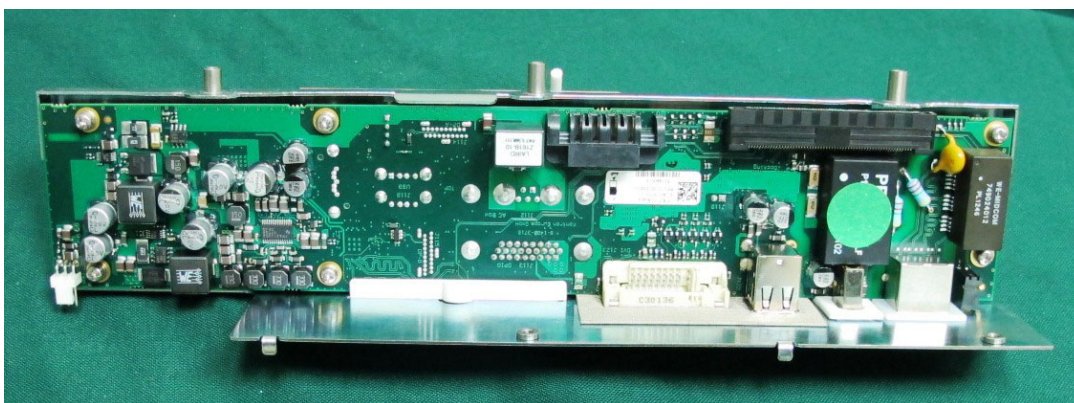

Figure 8-182 BIF Board Removed (View from Internal Side)
- 9.) While supporting the BIF Board with one hand, remove the 3 screws; remove the BIF Board from the system - Figure 8-182 below.